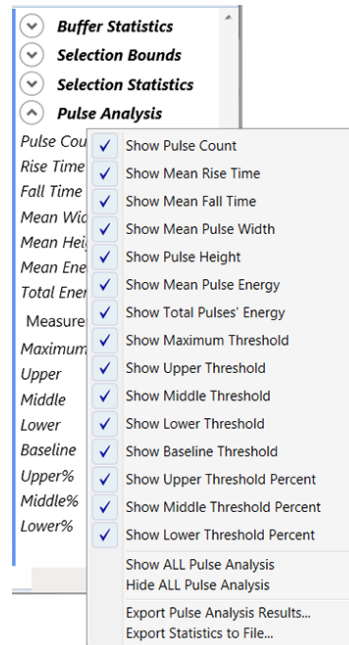

Figure 7-41. Select Analysis Options
- Either select each menu option from the pop-up menu or **Select All**. Refer to Figure 7-41.